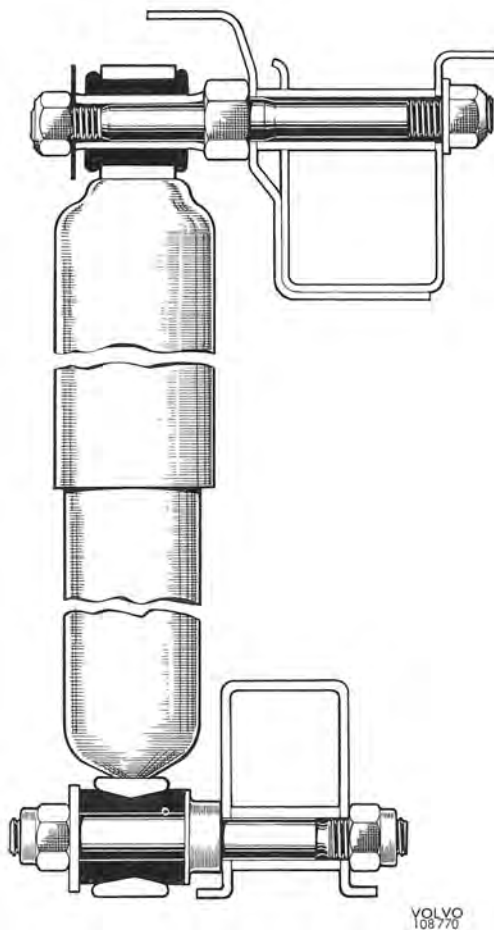

Fig. 7-10. Attachments, rear shock absorber
The rear shock absorber attachment (Fig. 7-10) consists of eyelets provided with rubber bushes (1 and 3) which cannot be dismantled. These absorbers are bolted at the top to the rear side-members and at the bottom to the support arms.
2. Fit and tighten the shock absorber, see Fig. 7-10. Fit the wheel and wheel nuts. Lower the vehicle. Put on the hub cap.
8. Fit and tighten the nuts for the support arm screws. Fit and tighten the nut for the lower shock absorber attachment, see Fig. 7-10.